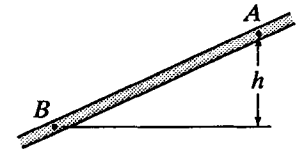

Figure X5.3.4
5.3.4 In Figure X5.3.4, the pipe AB is of uniform diameter and $h = 28$ ft. The pressure at A is 30 psi and at B is 40 psi. In which direction is the flow, and what is the pipe friction head loss in feet of the fluid if the liquid has a specific weight of (a) 35 lb/ft³; (b) 92 lb/ft³?